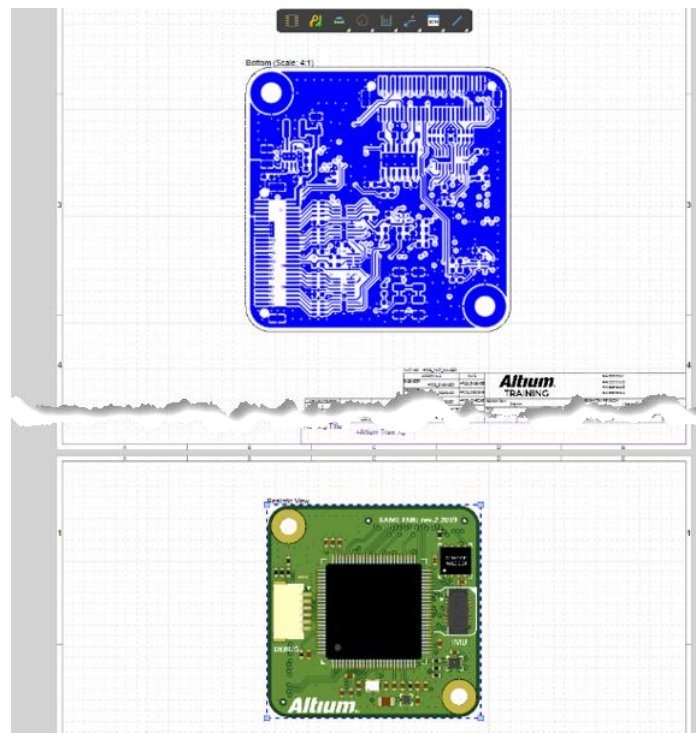

Figure 14. Fabrication View Page 3 and Realistic View Page 4
55. Place the *Board realistic View* in the center of the page as shown in Figure 14.